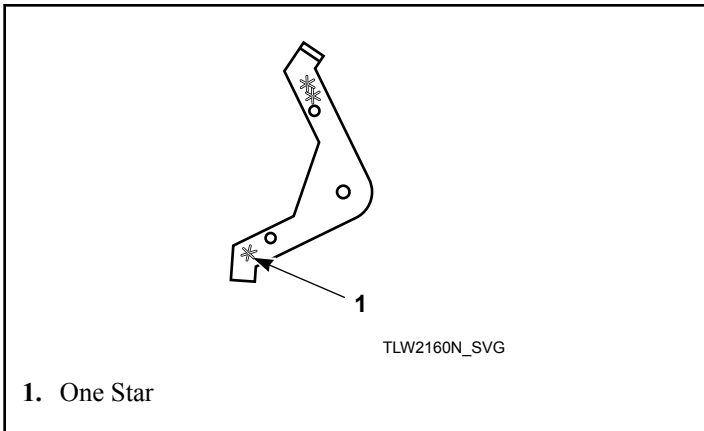

Figure 28
2. Install extension lever with arm that has one star facing down. Refer to *Figure 28*.